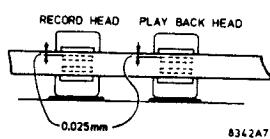

Fig. 13
c. Adjusting the height of the head (Fig. 13)